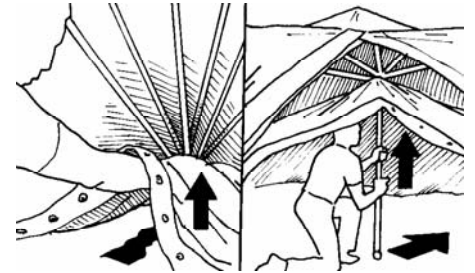

Figure 2-6 - Push Pole Placement
7. The Shelter should now be resting on four push poles which are in a vertical position as shown in Figure 2-6.